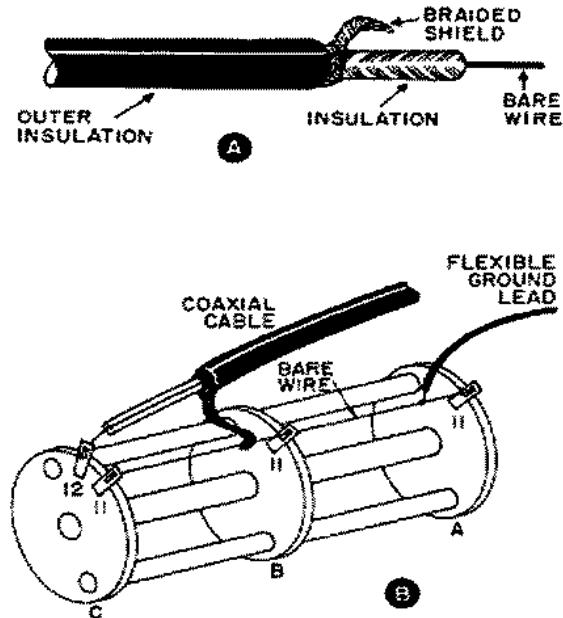

Figure 22 - (A) Prepared end of the coaxial cable.
- () Insert the prepared end of the test probe cable through the metal grommet in hole EE from the front of the panel. Connect the center lead of this coaxial cable to terminal 12 of the rear of deck C of the function switch. See Fig. 22 for details of the coaxial cable and how the cable is connected to the switch. Solder terminal 12, rear of deck C.